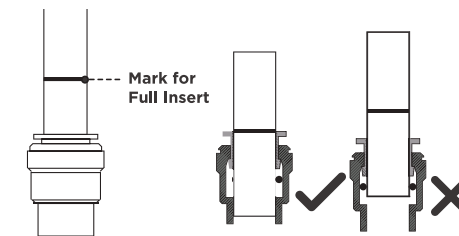

Figure 1
1. There is an existing mark (Fig.1) at the end of the tubing that you can use to confirm whether the tubing is fully inserted into the fitting. Push the tubing into the fitting until you reach the mark on the tubing.